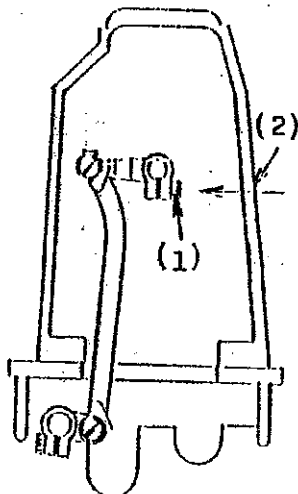

Fig.24
2. Loosen the connecting screw(1) Fig.24 from the screw driver hole(2) Fig.24 of the arm.
4. Tighten the connecting screw(1) Fig.24, securely.